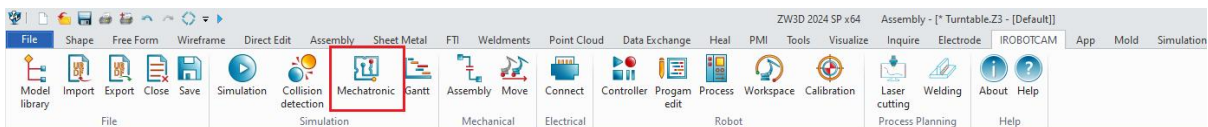

Figure 13-24: Mechatronic button
- Click the "Mechatronic" button.(Figure 13-24)